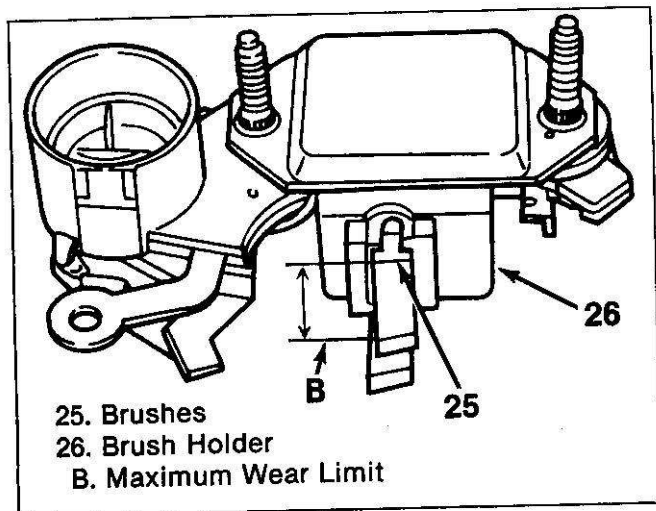

Figure 17. Brush Holder and Brushes
- Brush holder and brushes. The brushes have a line that indicates their limit. If the brushes are shorter than 6 mm (0.24 in) replace the brushes (figure 17).